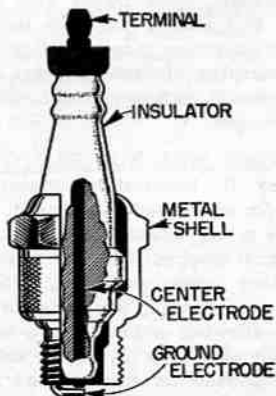

Fig. CS38 — Cross sectional view of spark plug showing construction and nomenclature.
**ELECTRODE GAP.** The spark plug electrode gap (Refer to Fig. CS38) should be adjusted by bending the ground electrode. The recommended gap is listed in the SPARK PLUG paragraph in MAINTENANCE section for the individual motor.